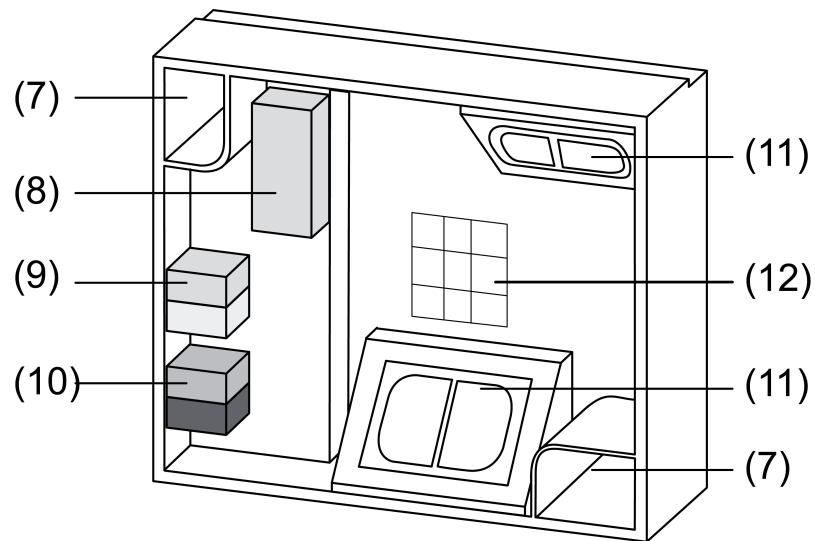

Figure 5: Terminal box opened
- Note physical address on adhesive labels in terminal box (12) and in cover of the terminal box (figure 5).